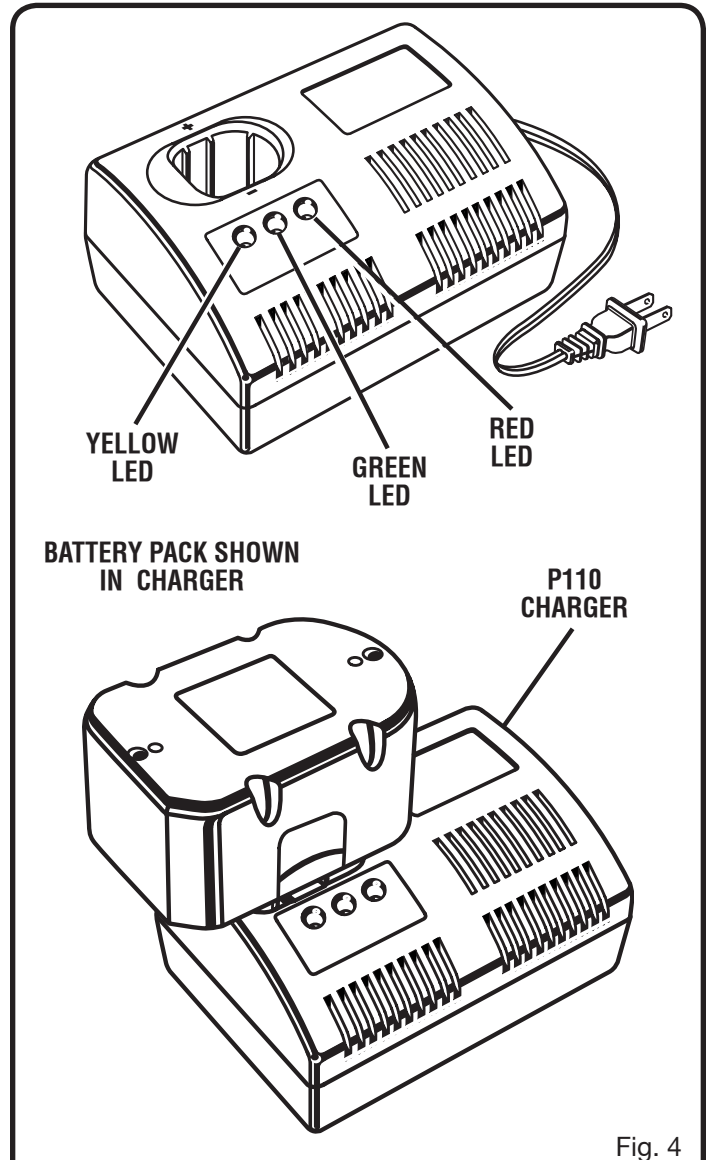

Fig. 4
- Place the battery pack in the charger aligning raised rib on the battery pack with the groove in the charger. *See Figure 4.*